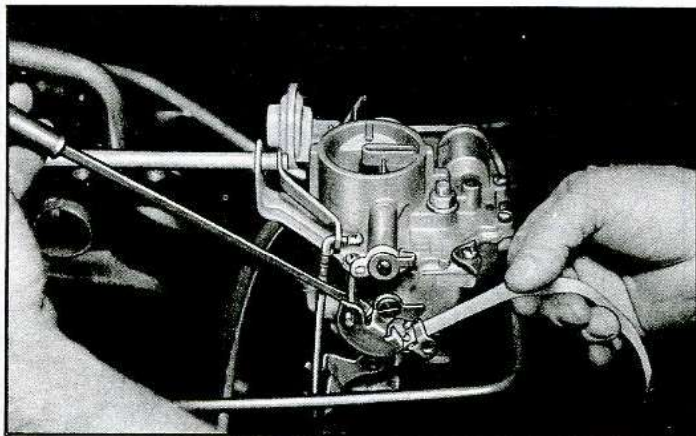

Fig. 7—Adjusting Idle Speed Screw
5. Set idle screw on L/H carburetor by placing strip of paper between idle screw and throttle shaft lever and turning screw in until a firm drag is felt on the paper. Turn idle screw in 1-1/2 additional turns (fig. 7).